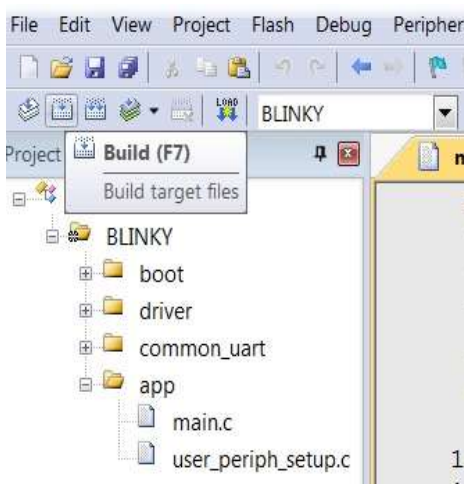

Figure 22: Blinky Project: Project Building
- Build the project by pressing **F7** key, or clicking the **Build** button, see **Figure 22**.